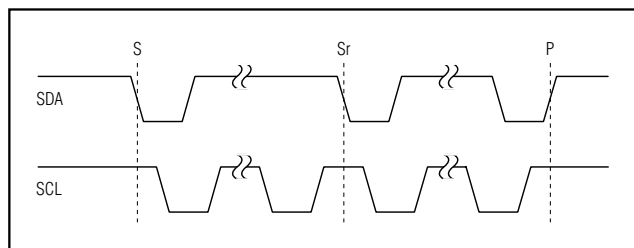

Figure 4. START and STOP Conditions
The master initiates a transmission with a START condition (S), a high-to-low transition on SDA with SCL high. The master terminates a transmission with a STOP condition (P), a low-to-high transition on SDA while SCL is high (Figure 4). A START condition from the master signals the beginning of a transmission to the MAX5109. The master terminates transmission by issuing a STOP condition. The STOP condition frees the bus. If a REPEATED START condition (Sr) is generated instead of a STOP condition, the bus remains active.